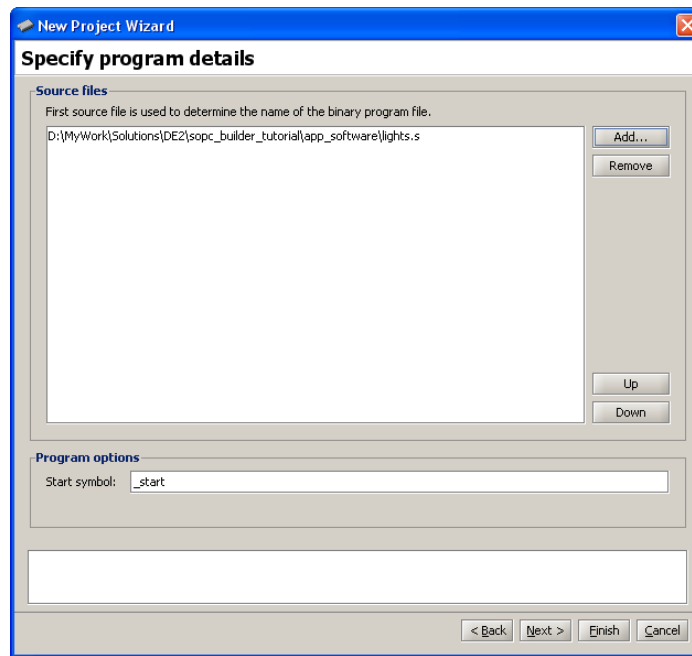

Figure 24. Specify the binary file to use.
7. Select **Assembly Program** as the program type from the drop down menu and click **Next >**, leading to Figure 24.